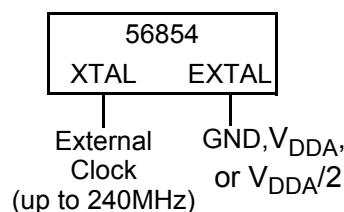

Figure 4-7 Connecting a High Speed External Clock Signal using XTAL
The recommended method of connecting an external clock is given in Figure 4-7. The external clock source is connected to XTAL and the EXTAL pin is held at ground, V_{DDA} , or $V_{DDA}/2$. The TOD_SEL bit in CGM must be set to 0.
1. See **Figure 4-7** for details on using the recommended connection of an external clock driver.